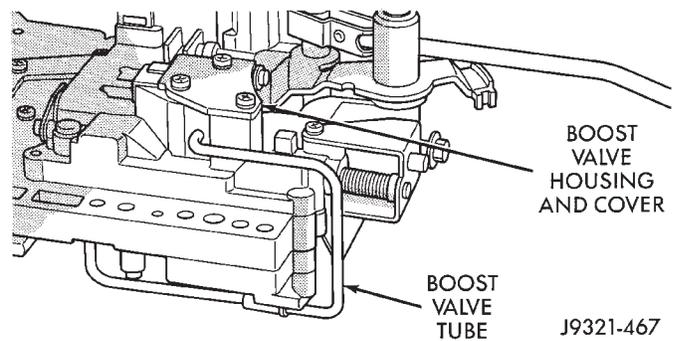

Fig. 69 Boost Valve Cover Location
- (12) Remove boost valve cover (Fig. 69).